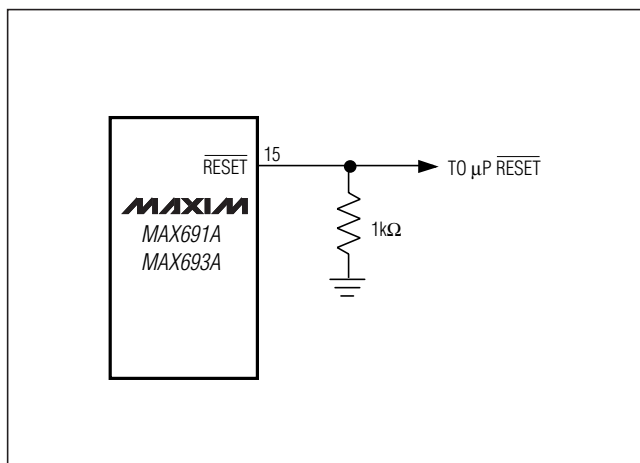

Figure 1. Adding an external pulldown resistor ensures  $\overline{\text{RESET}}$  is valid with  $V_{CC}$  down to GND.
guaranteed to be valid down to VCC = 1V, and an external 10kΩ pulldown resistor on RESET insures that it will be valid with VCC down to GND (Figure 1). As VCC goes below 1V, the gate drive to the RESET output switch reduces accordingly, increasing the RDS(ON) and the saturation voltage. The 10kΩ pulldown resistor insures the parallel combination of switch plus resistor is around 10kΩ and the output saturation voltage is below 0.4V while sinking 40μA. When using a 10kΩ external pulldown resistor, the high state for RESET output with VCC = 4.75V will be 4.5V typical. For battery voltages ≥ 2V connected to VBATT, RESET and RESET remain valid for VCC from 0V to 5.5V.